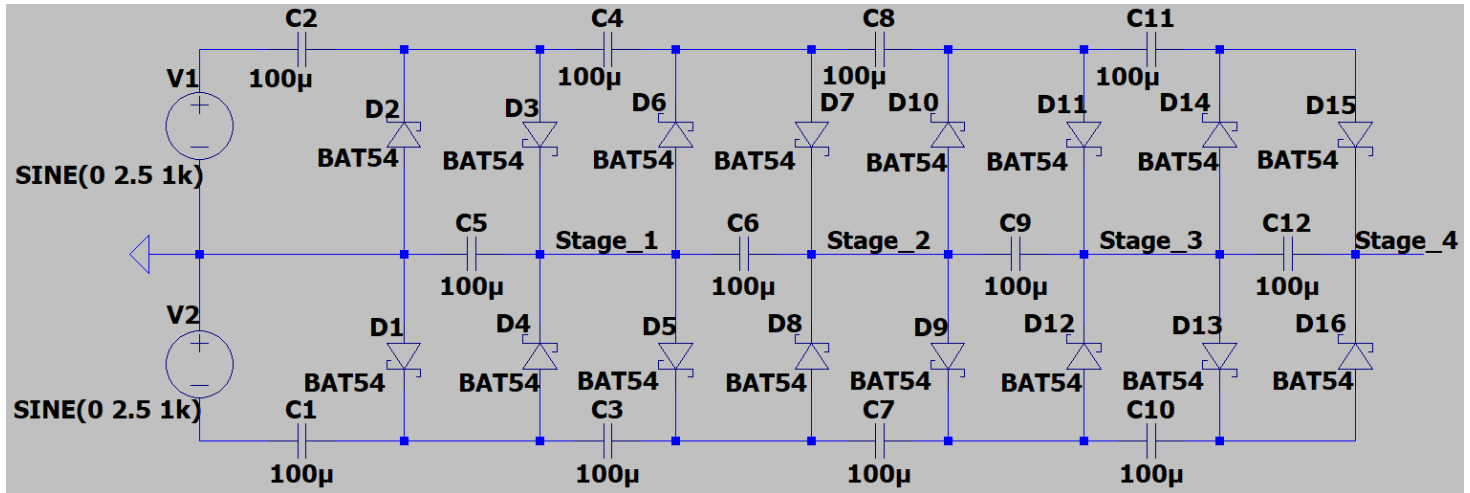

Figure 45: Improved Design With Stages
- As you can see from the figure 45 the output of the every voltage doubler is named with the related stage number.